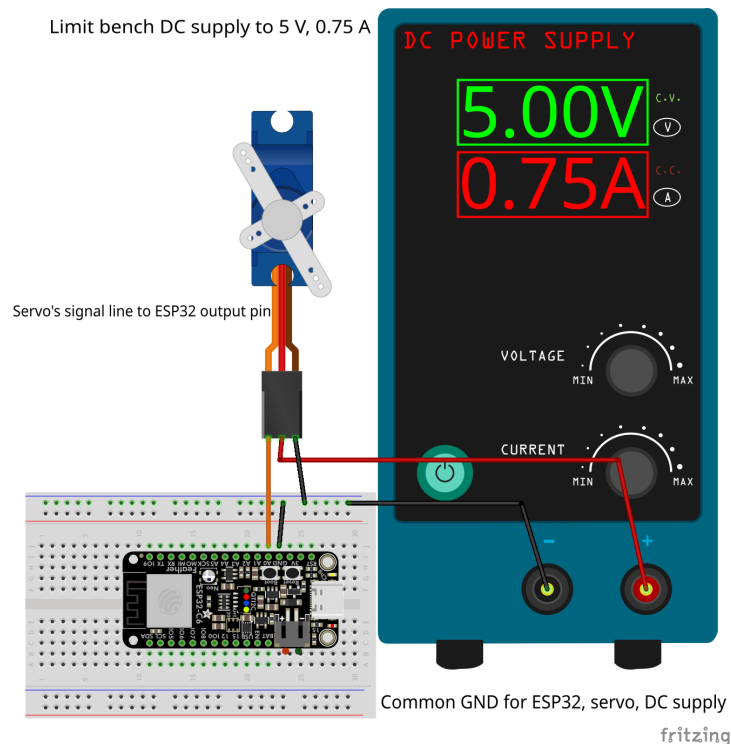

Figure 3: The wiring diagram of servo motor with ESP32
- Build your circuit with your ESP32, servo motor, breadboard, and jumper cables, wire according to the schematic in Fig. 3 (NOTE: you will need to connect your
- Pay attention to the GPIO pinouts in Fig. 3 and **UNPLUG USB CABLE IF YOU SMELL BURNING/SMOKE!**